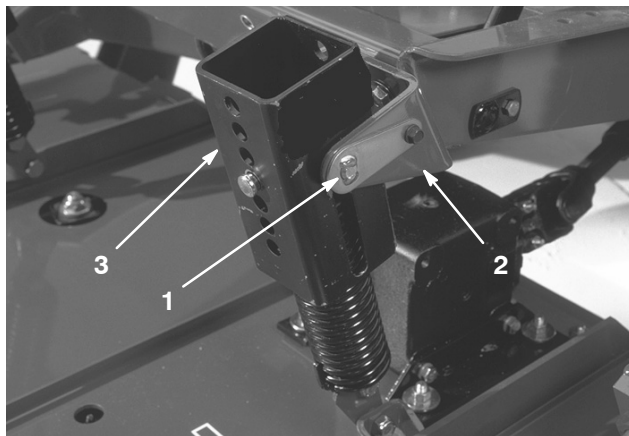

Figure 21
2. On the Groundsmaster 200 Series only, disconnect the counterbalance from the traction unit, remove the lock pins from the brackets, separate the spring tension assemblies from the brackets, and lay them down on the deck. Loosely secure the lock pins to the brackets to prevent from losing them (Fig. 21).